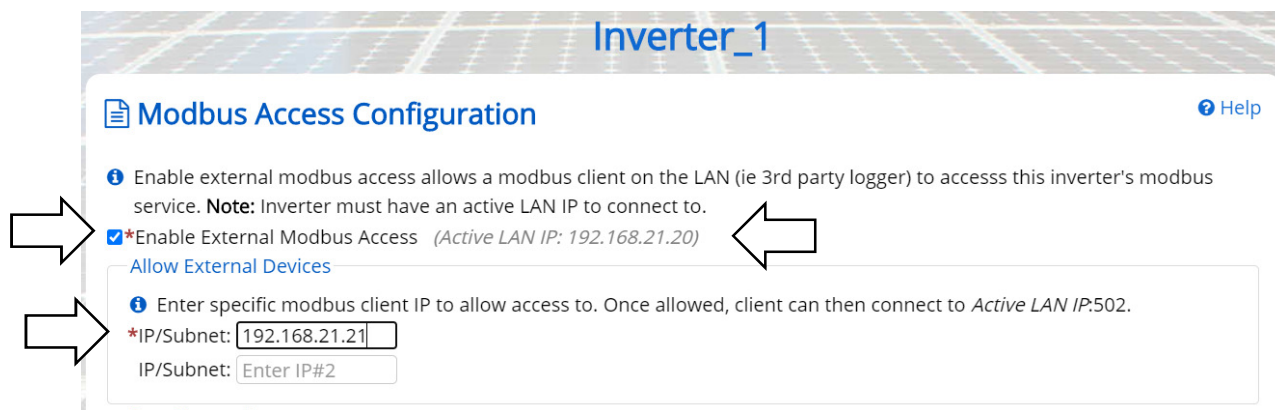

Figure 5-8 Enabling external Modbus access, static routing
- Listed as **Active LAN IP** on the **Modbus Access Configuration** page, see Figure 5-8